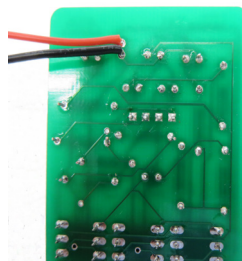

Fig.9
9. Solder the red wire of the 9V battery connector from the back side of the PCB into the other pin of X1 as per fig. 9.